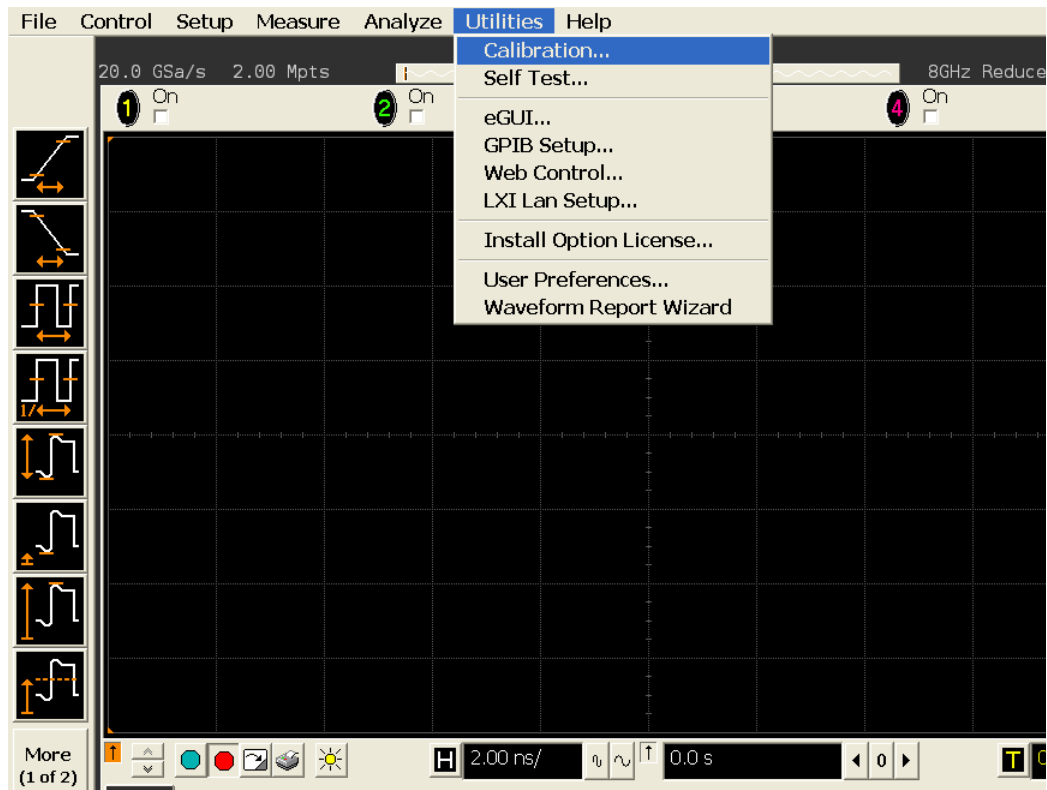

Figure 25 Accessing the Calibration Menu
- 3 Referring to Figure 25 below, perform the following steps: